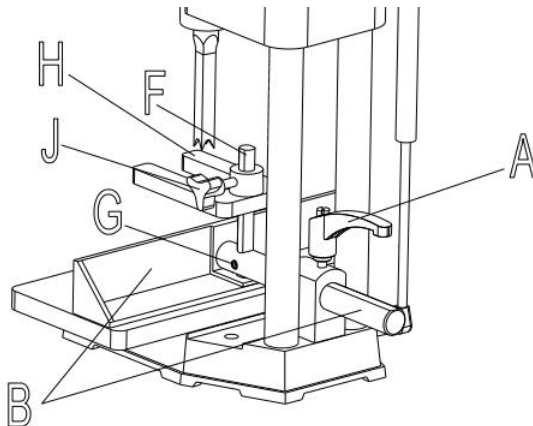

Fig.7
- 1.Locate handle assembly and remove screw (A) Fig.7, and spring (B) from handle (C). Sperate handle (C) from stud (D).
2. Insert bar of fence assembly (E) Fig. 7, through hole in column as shown. Tighten handle (C) against flat on fence bar to hold fence in position. NOTE: Handle (C) is spring-loaded and can be repositioned on the stud located underneath the handle by pulling out the handle and repositioning it on the stud.
3. Insert bar (F) Fig. 7, into hole on top of fence as shown, and tighten set screw (G) against flat on bar (F).
4. Assemble the hold down (H) Fig. 7, onto bar (F) as shown, and tighten set screw (J) against flat on bar.